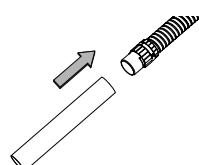

Fig 6
4. **Connecting the wand:** Insert the wand into the other end of the hose (Fig. 6).